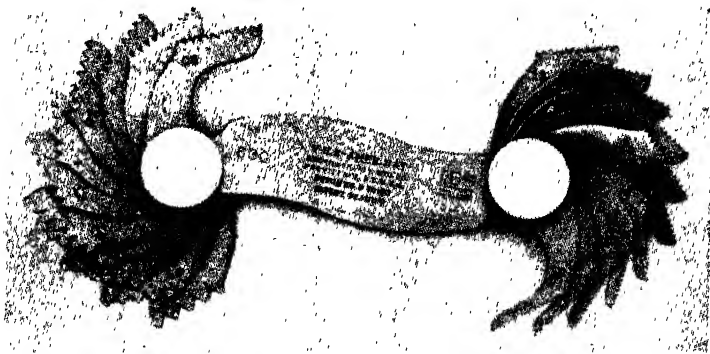

Fig. 17-22. Thread-pitch gage. (Brown & Sharpe Manufacturing Company)
6. *Be sure* the gears are right for the pitch required. Many jobs are spoiled by carelessness in this respect. Measure the pitch after the first light cut. This may be done by counting the number for 1 in. or for $\frac{1}{2}$ in. (Fig. 17-21), but a screw-pitch gage (Fig. 17-22), is quicker and there is less chance of error.